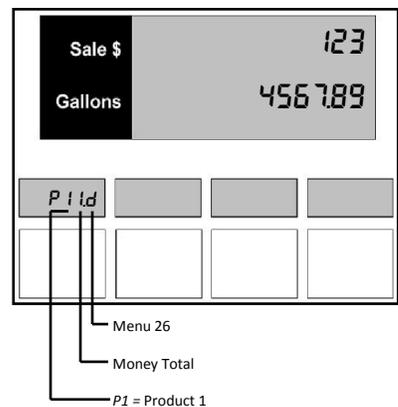

Figure 1.7 – Shift Totals
6. If all Menu Code 5 totals have been displayed, tap the magnet over the left side of the volume display print again to view Menu Code 26 (Shift Totals) for Product 1 as shown in *Figure 1.7*.